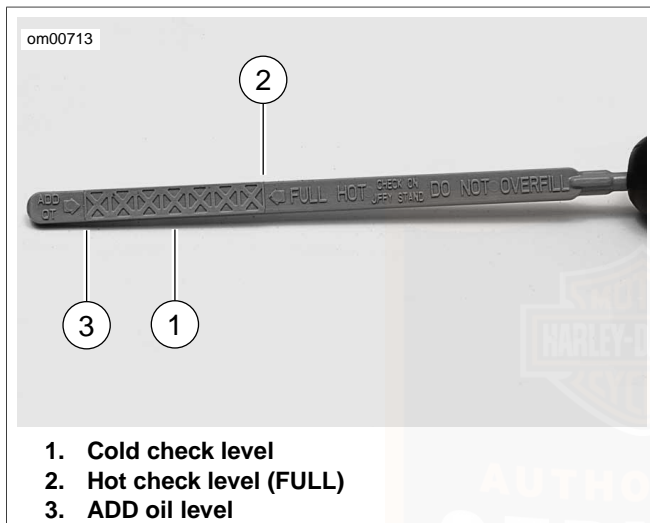

Figure 22. Engine Oil Level: Dyna Models
2. See Figure 22. Remove the dipstick and note the level of the oil. Oil level should register between the two marks on the dipstick.